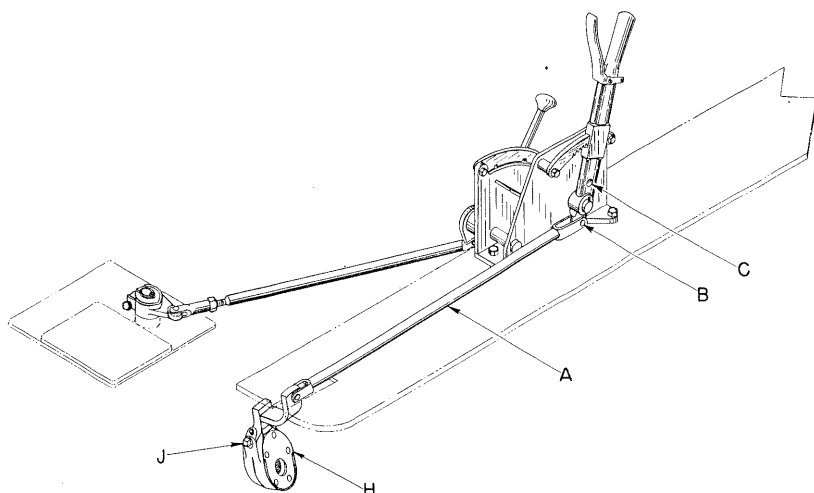

Figure 3 (Underwinding)
1. The brake link "A" should be connected to the LOWER HOLE in the handlever at "B," Figure 3, when the DRUM IS UNDERWINDING.